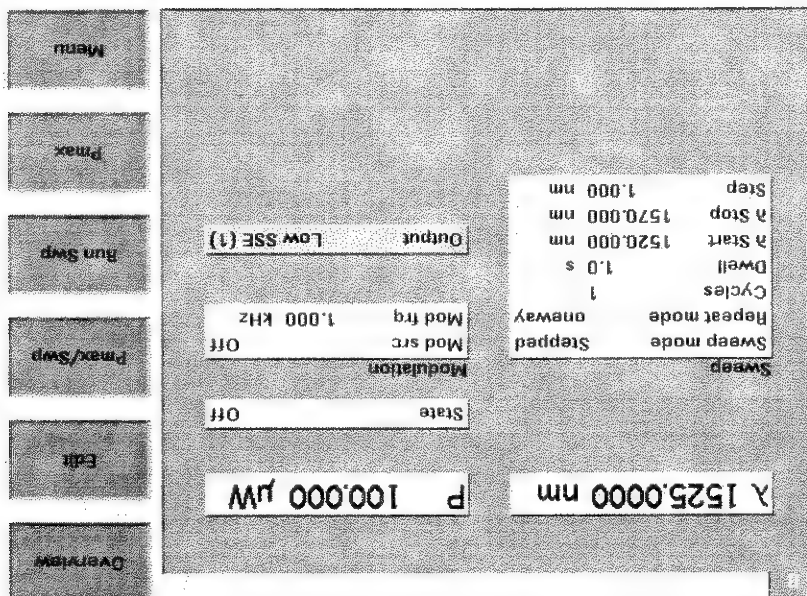

Figure 62 Setting Low SSE parameter
- <Low SSE (1)>, a lower power optical output with low Source Spontaneous Emission (SSE), for example, for use in passive component test, you see a screen similar to Figure 62,
If you enable the laser output for a module with two optical outputs by pressing the *Active* hardkey on the module's front panel, you automatically choose the optical output for that module. For example, if you press the *Active* hardkey beside Output 1, the Low SSE optical output, you choose <Low SSE> as the optical output, the LED beside the Output 1 lights constantly, and you see the screen in Figure 62.